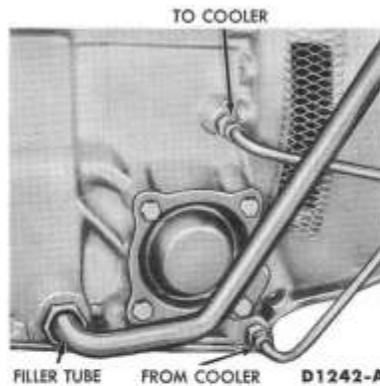

FIG. 2—Cooler Line Connections at Transmission (170 Six Engine)
3. Disconnect the converter-out line from its fitting on the lower right-hand side of the transmission case (Fig. 2). Remove the fitting from the case. Remove the hose from the gauge T57L-77820-A. Connect the hose to the converter-out 1/8-inch pipe thread in the transmission case.